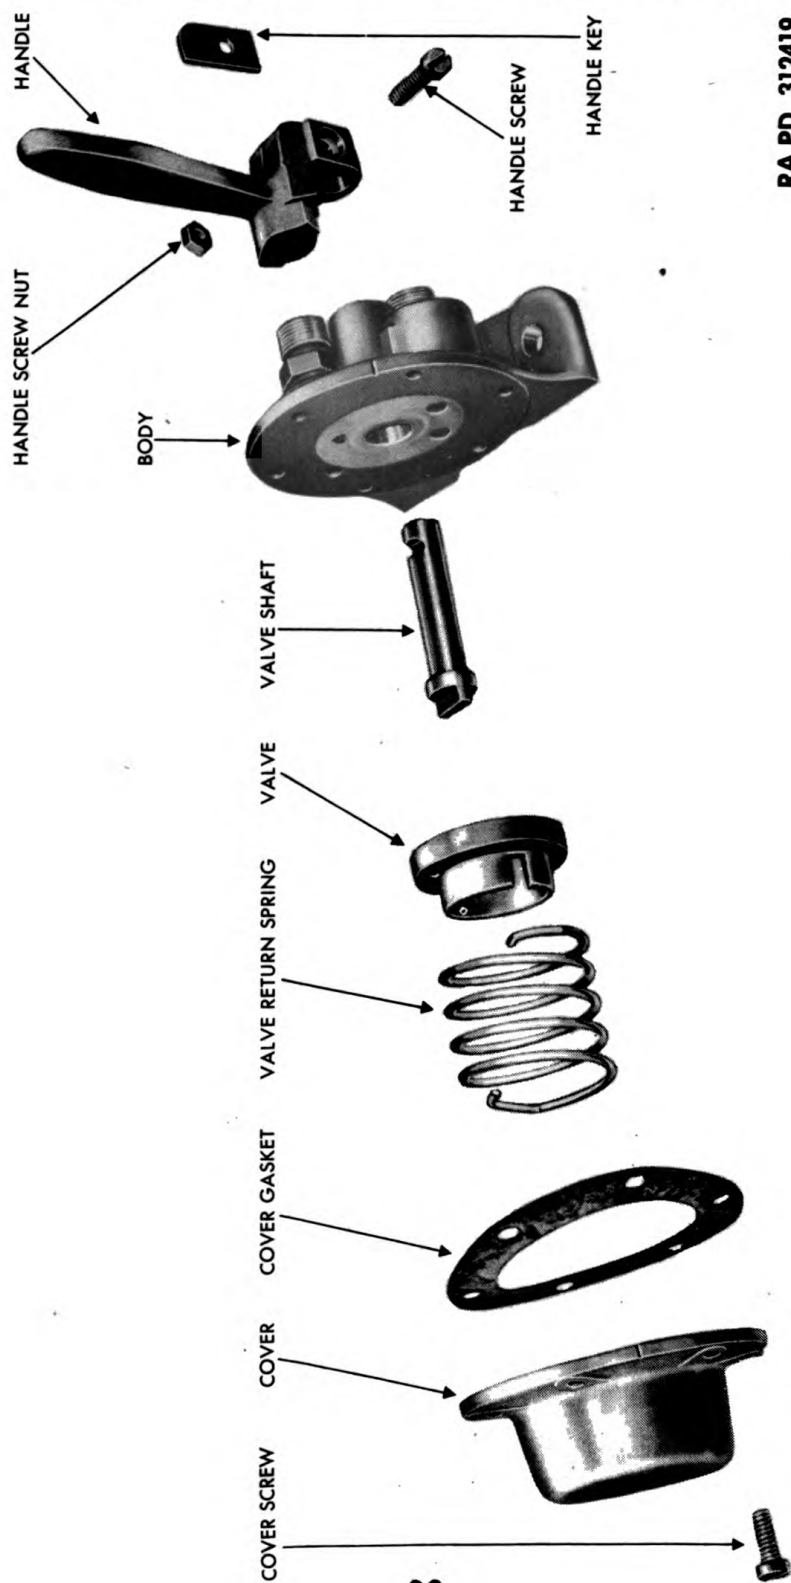

Figure 24 — Clutch Control Valve — Disassembled
a. **Disassemble** (fig. 24). Mark the cover and body by filing a notch across the sides to assure assembly in the same position. Remove six clutch control valve cover screws. Lift off cover and return spring. Turn valve over, and remove handle clamping screw and nut. Pry handle off valve stem, being careful not to lose handle key. Lift valve off and remove valve shaft.
c. **Assemble.** Lubricate valve surfaces with general purpose grease. Install valve stem, and place handle in position so that notch in valve stem and handle are in alinement. Install handle key, and install screw and nut. Place valve on valve stem lug in position so that the oblong recess in the valve, when the body and cover markings are in alinement, is directly over the two openings in valve body. Coat cover side only of cover gasket with joint and thread compound, and set in position. Care must be taken to insure that none of the compound gets inside the valve assembly. Place return spring in valve notch and in cover notch. Aline markings on valve body and cover to assure that proper spring tension is maintained and install six cover screws (fig. 24).